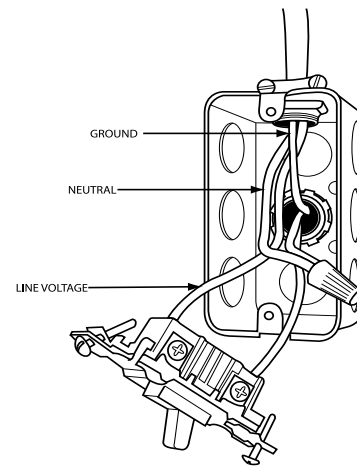

Fig. 35 – External Electrical Box
5. Fasten the external electrical box to the furnace casing using two (2) sheet metal screws.
11. Connect field power and neutral leads to furnace power leads inside the external electrical box as shown in Fig. 35.
1. Drill two (2) 1/8-in. (3 mm) pilot holes through the dimples in the furnace casing near the 7/8-in. knockout or plug on the side of the casing. Do not remove the knockout or plug in the side of the casing.
9. Connect field power and neutral leads to furnace power leads inside the external electrical box as shown in Fig. 35.